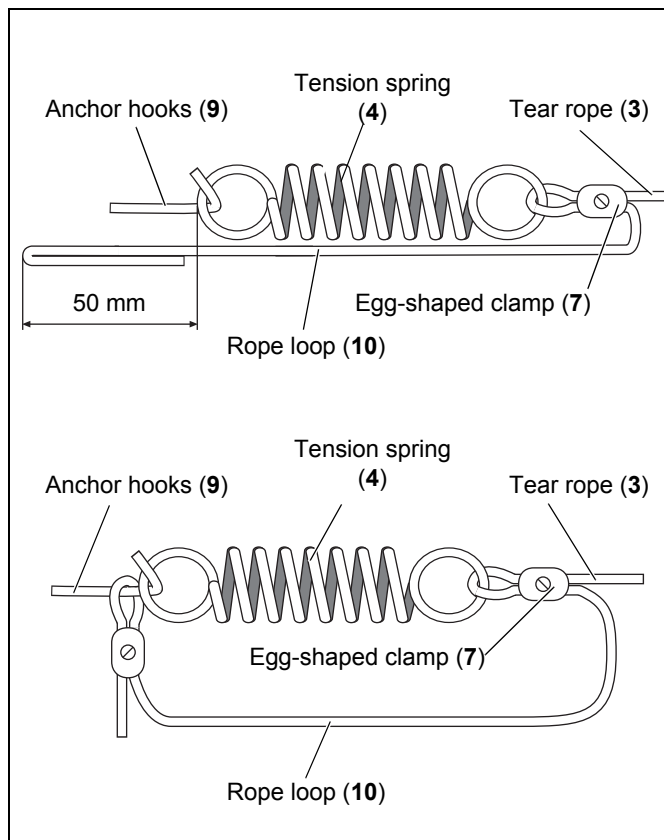

Fig. 5-9: Forming the rope loop
Rope loops (10) are designed to limit the distance the pull wire (3) travels when actuated and prevents the tension spring (4) from overextending (see fig. 5-9). The maximum extension of the tension spring (4) is approximately 400 mm.
17. Form the rope loops (10) on both tension springs (4) as follows:
- a. Place the section of tear rope (3) provided for the rope loop (10) along the tension spring (4) (see fig. 5-9, above).
- b. Use the end of the rope loop (10) to make a fastening loop that stops about 50 mm from the end of the tension spring (4) (see fig. 5-9).
- c. Use an egg-shaped clamp (7) to attach the rope loop (10) to the anchor hook (9) (see fig. 5-9, below).